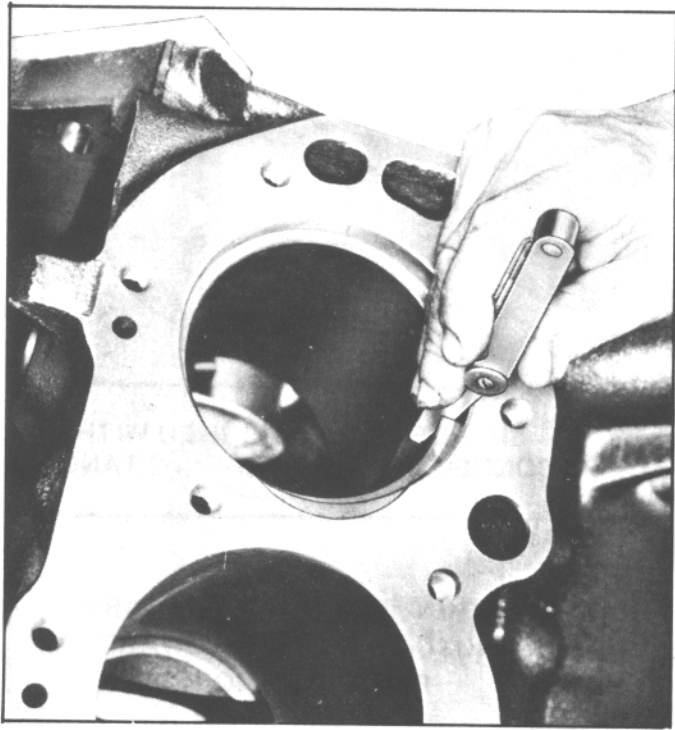

Fig. 78. Measuring Ring Gap
3. Measure the space or gap between the ends of the ring with a feeler gauge (Fig. 78).